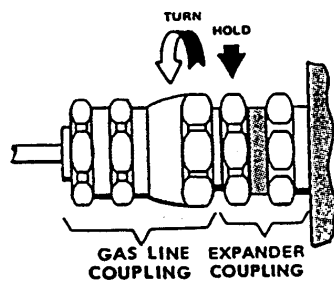

Figure 15 Break the Gas Line Connection from the Cold Head
1. Always use two wrenches. Use one wrench to hold the cold head coupling. Use the second wrench on the gas line coupling nut to break the connection. See Figure 15.